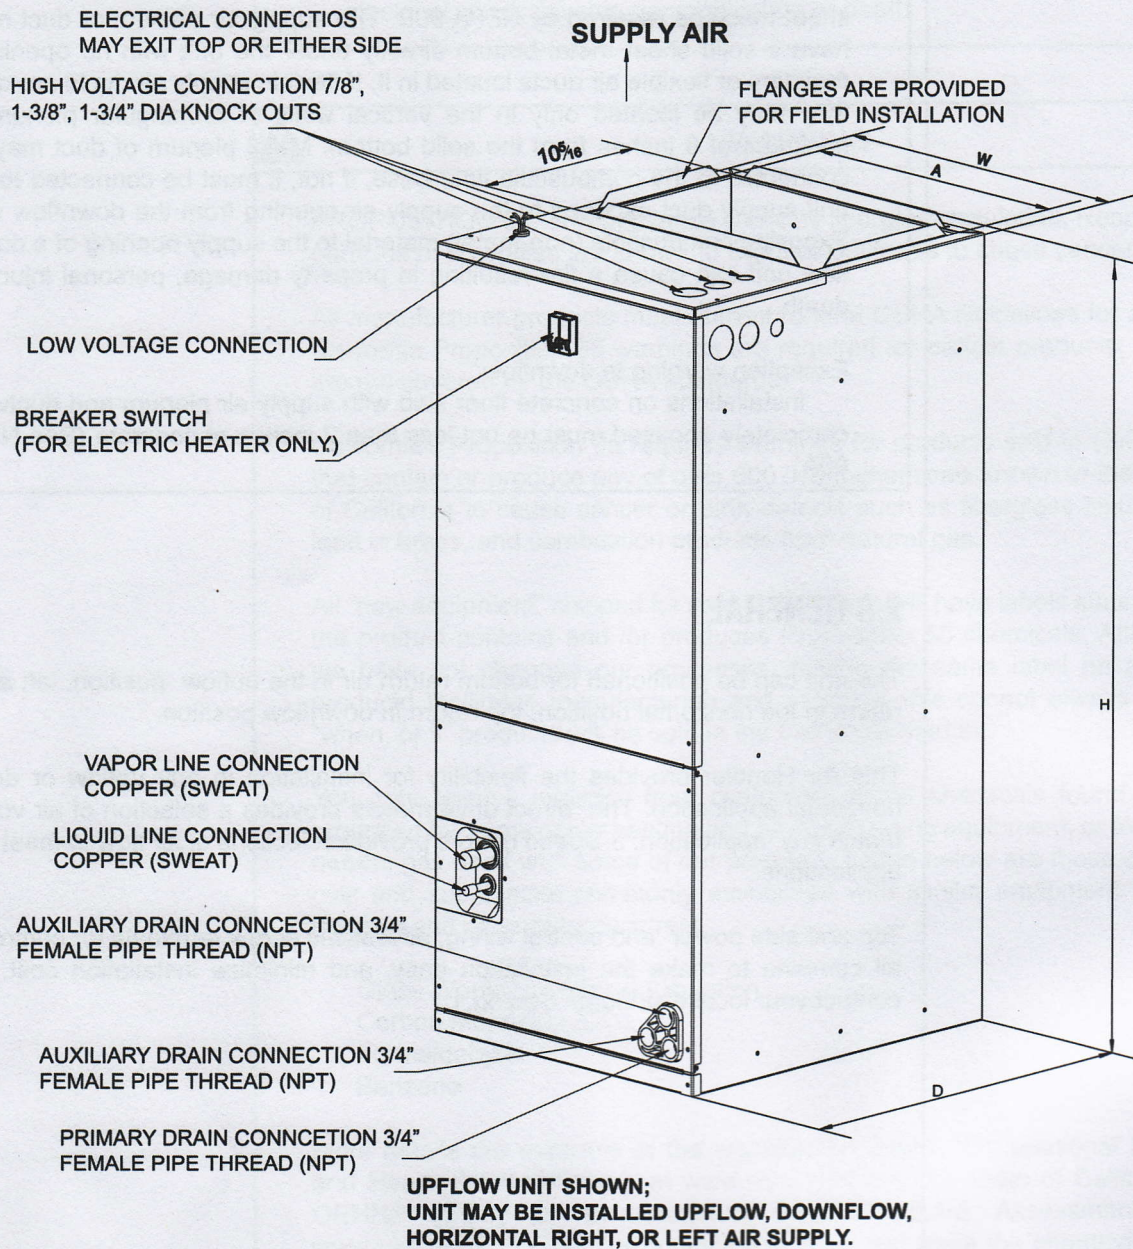

Fig.1 DIMENSIONS
Top and side power and control wiring, accessible screw terminals for control wiring all combine to make the installation easy, and minimize installation cost. Please contact your local distributor. See fig.1.
- Vertical Upflow configuration is the factory set on all models (see Fig 1).
Torque applied to drain connections should not exceed 15.ft.lbs.(see Fig.1&2)